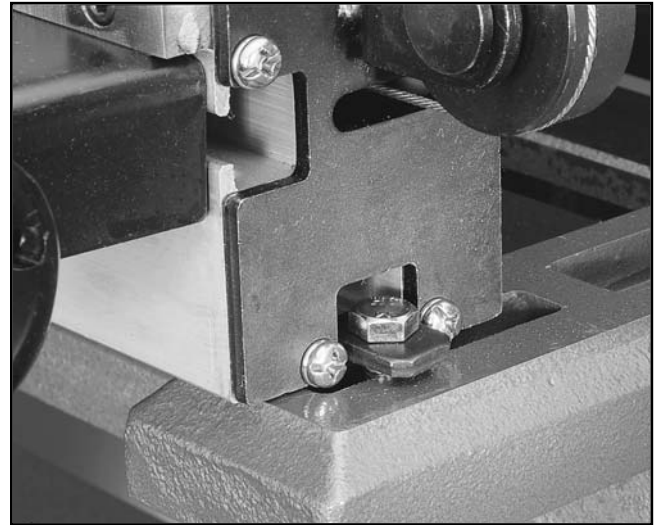

Figure 3. Sliding attachment onto bolts.
2. Slide the two hex head bolts with clamping plates attached into the channel located along the bottom of the Copy Attachment main body. **See Figure 3.** Place the Copy Attachment onto the bed brackets installed in Step 1, dropping the hex bolts through the bed bracket slots at the front of the lathe. Center the attachment body with the lathe bed and slip the packing block, flat washers, spring washers and nuts provided over the hex bolts and just finger-tighten.